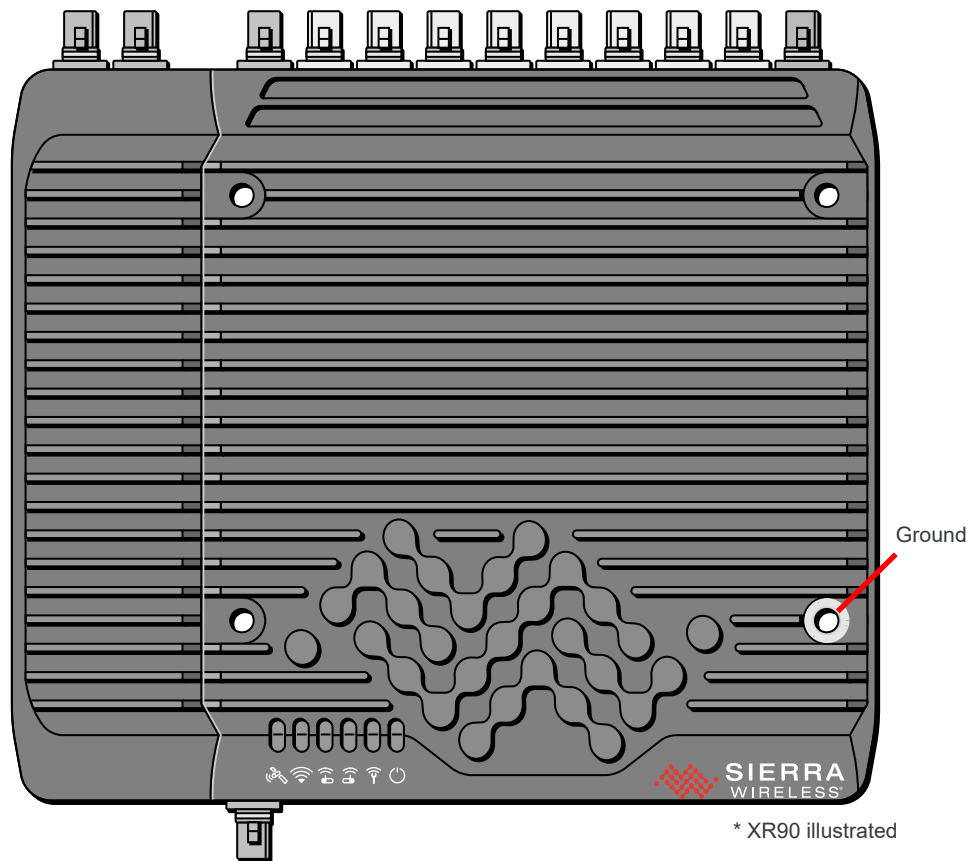

Figure 2-7: Ground Connector
Sierra Wireless strongly recommends that you always ground the router using the unpainted mounting hole (grounding point) shown in Figure 2-7 on page 24.
- Connect one end of a short 18 AWG or larger gauge wire to the unpainted mounting hole (see Figure 2-7) and connect the other end to your main grounding point. (e.g. for a vehicle-mounted XR router, ground to the vehicle chassis)